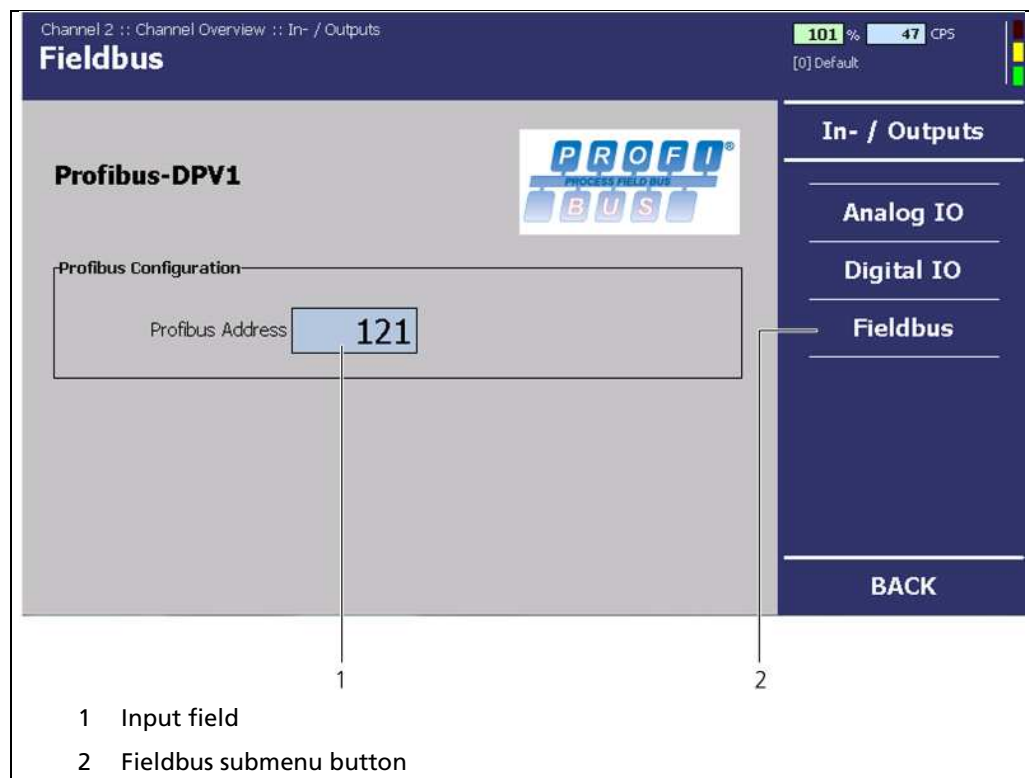

Fig. 70 "Channel Overview" Menu, In/Outputs - Fieldbus
1. In the "Channel Overview" menu click on In/Outputs | Fieldbus (Fig. 70, Pos. 2).
2. Click in the "Profibus" input field: Address" (Fig. 70, Pos. 1).
3. In the input field „Profibus: Configuration" enter the address of the bus device (Fig. 70, Pos. 2).